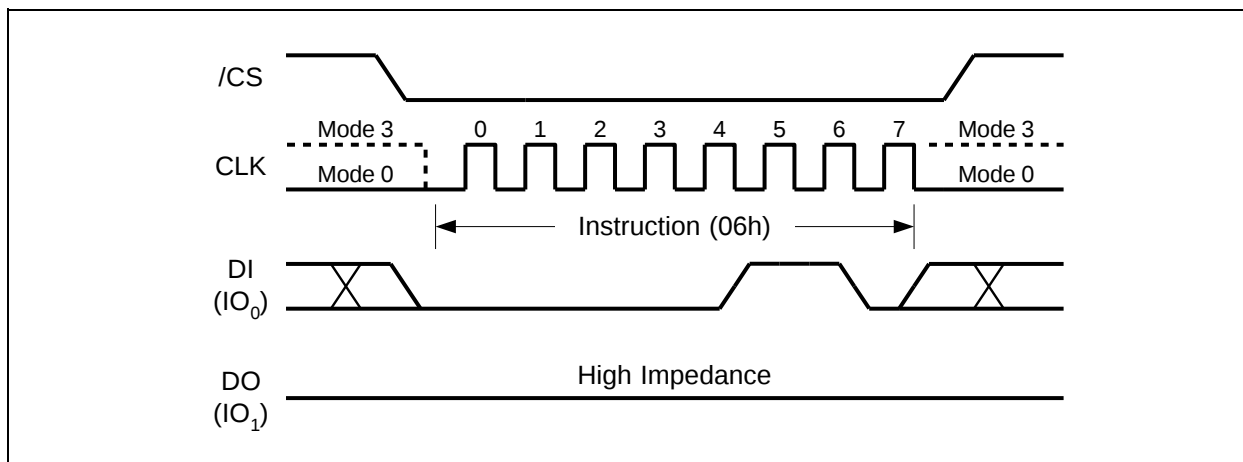

Figure 4. Write Enable Instruction Sequence Diagram
The Write Enable instruction (Figure 4) sets the Write Enable Latch (WEL) bit in the Status Register to a 1. The WEL bit must be set prior to every Page Program, Quad Page Program, Sector Erase, Block Erase, Chip Erase, Write Status Register and Erase/Program Security Registers instruction. The Write Enable instruction is entered by driving $\overline{\text{CS}}$ low, shifting the instruction code "06h" into the Data Input (DI) pin on the rising edge of CLK, and then driving $\overline{\text{CS}}$ high.